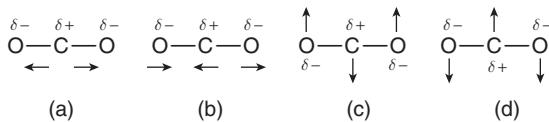

Figure 3 Stretching vibrations of CO_2 : (a) Symmetric stretching; (b) asymmetric stretching (c) and (d) bending of two degenerate modes at right angles.
- Infrared region:** In this region, dipole is produced by vibration rather than rotation. For example, in a triatomic molecule of CO_2 , the three atoms are arranged linearly. The carbon atom carries a small positive charge and each oxygen atom carries a small negative charge. During vibration of the molecule, the two C–O bonds are stretched and compressed alternatively. If the two bonds are simultaneously stretched followed by simultaneous compression, the vibrations are termed symmetric stretching vibrations. Dipole moment remains zero through such vibrations [Figure 3(a)].
If, however, one C–O bond is stretched while the other one is compressed or vice versa, the vibration is called asymmetric stretching vibration and periodic alteration occurs [Figure 3(b)], as shown in the figure. During the symmetric and asymmetric stretching vibrations, the center of gravity does not move. The two C–O bonds can also undergo bending in two modes, which are degenerate and at right angles [Figures 3(c) and (d)]. As a molecule vibrates, if there is a change in its dipole moment then this induces an electric field that interacts with the infrared radiation. If there is a match in frequency of the radiation and the natural vibration of the molecule absorption of electromagnetic radiation takes place. These vibrations give rise to spectrum in the infrared region.